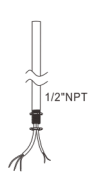
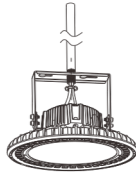

Figure 8
Figure 10
1. Unscrew the nut on a 1/2"NPT. (Figure 8)
3. Re-cycle and tighten the nut (Figure 8) that unscrewed from the 1/2 "NPT. (Figure 10)